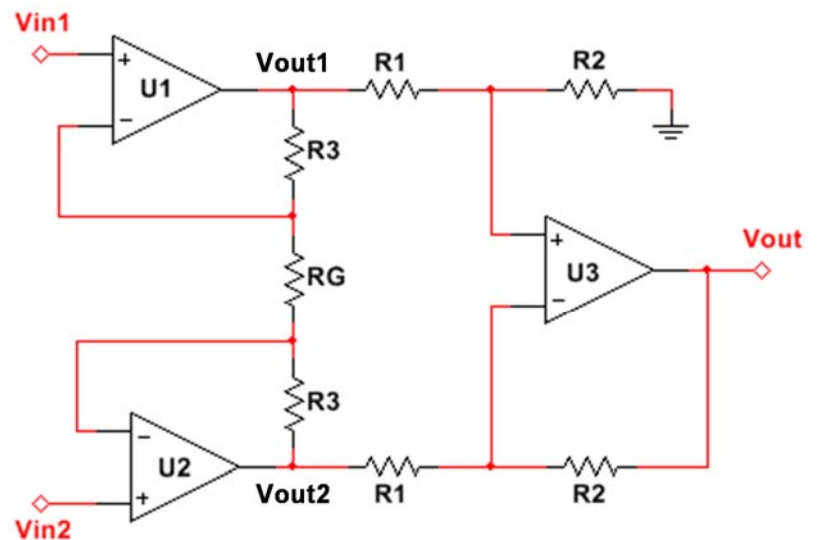

Fig. 8: Three op-amp instrumentation amplifier for Problem 10.
- 10) An instrumentation amplifier is a high quality differential amplifier with very high input impedance and CMRR. It is typically made from the 3-op-amp circuit shown in Fig. 8.